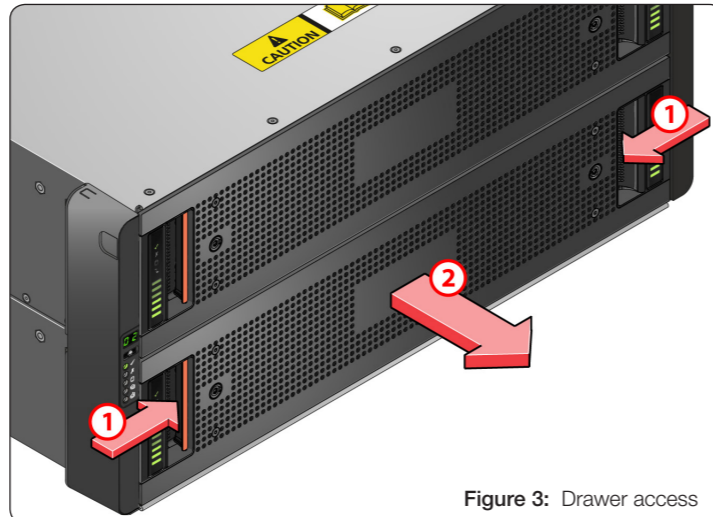

Figure 3: Drawer access
3. Push the drawer latches inward and hold them (Figure 3).